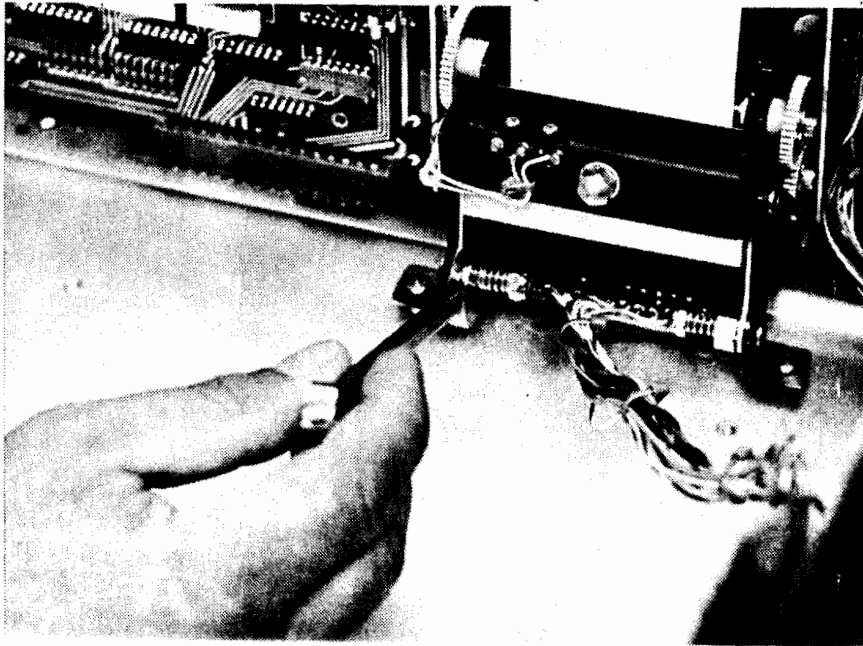

Figure 2-4. Adjusting the Printer
13. The printhead adjustment consists of first carefully rotating each of the two adjustment nuts (see Figure 2-4) until the darkest, most uniform printout is obtained; then slowly readjusting each nut until the loudest printing sound is heard. Adjusting for loudest print sound ensures that the head is correctly aligned.